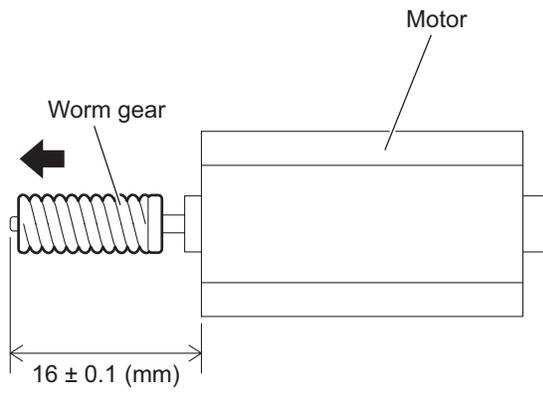

Fig.10
- Pull the worm gear out of the motor. (See Fig.10.)
When inserting the worm gear in the shaft of the motor, insert it by a measurement of a rule. (See Fig.10.)